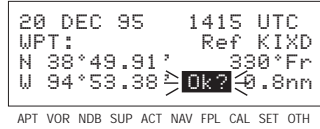

Figure 3-6
- The next page displayed will be the Initialization page (figure 3-6). Verify that the date displayed in the top left corner of the Initialization page is correct. The KLX 135A has an internal battery powered calendar/clock, so the date and time normally don't require setting. The battery has a life of approximately 3 years. In addition, the KLX 135A's system date and time are automatically updated very precisely when at least one satellite is being received. However, if for some reason the date or time are incorrect, it is necessary to enter the correct date or time so that the KLX 135A can reach the navigation mode. The date must be correct and the time must be correct within ten minutes so that the KLX 135A will start looking for the correct satellites.